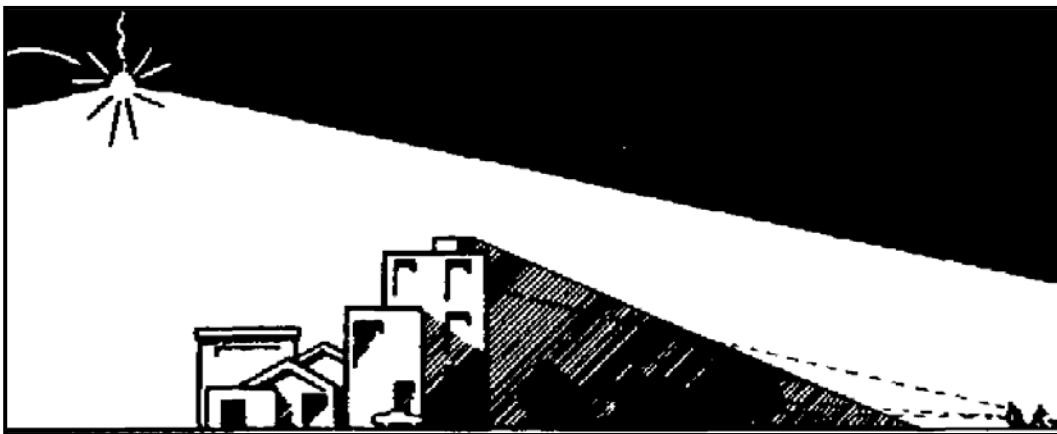

Figure K-1. Mortar illumination.
(10) **Use of WP or Illumination.** WP or illumination rounds ignite fires that may burn or smoke enemy out of buildings. Because of heat, the building may be unusable to the enemy for days. Effects to be considered before using this technique are the possibility of friendly casualties from stray rounds and large fires, the possibility that burning buildings or heavy smoke will interfere with planned operations, the possibility of collateral damage and civilian casualties, and whether use is permitted by the ROE. Illumination is greatly influenced by the presence of buildings. Deep canyons formed by buildings severely limit the effect and duration of illumination on the target even if properly placed. Illumination rounds should be planned to place friendly soldiers in the shadows and place enemy troops in the light (Figure K-1). Because of the shadows produced by the buildings and the drift of the illumination round, effective illumination may be for a short duration. The FDC needs to calculate where the illumination shell casings will impact and inform friendly units in their path.